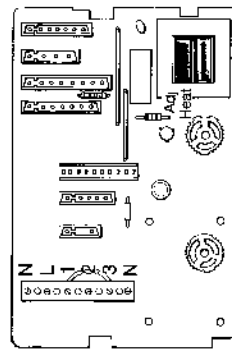
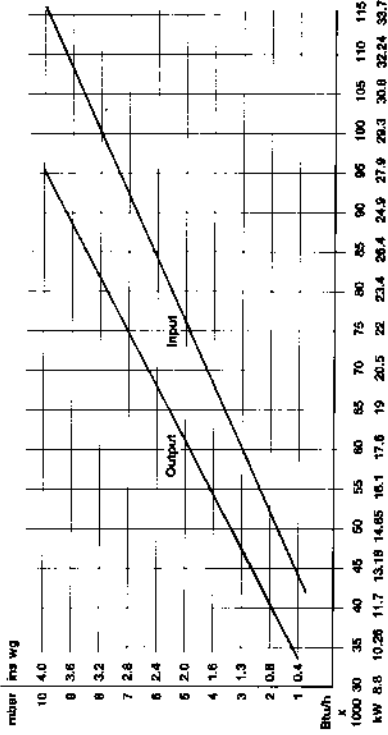

Fig. 21
Fig. 23
The terminal block is easily visible on the left of the printed circuit board (fig 21)
Wiring to the appliance should be rated for operation in contact with surface up to 90°C and connect it so that should the cable slip the anchorage the current carrying conductors become taut before the earthing conductor. (fig 21)
- 5.7.3** The terminal block is easily visible on the left of the printed circuit board (fig 21)
- 5.7.4** Pass the cable through the cord anchorage and connect it so that should the cable slip the anchorage the current carrying conductors become taut before the earthing conductor. (fig 21)
Refer to fig 23 to determine pressure for the heating output you need. Use a screwdriver to adjust the potentiometer (fig 21) until the required pressure is indicated on the gauge. Once this pressure has been fixed it should be indelibly recorded on the label provided and affixed next to the data badge. This is to ensure that the burner can be reset when any service operation involves alteration of burner settings.